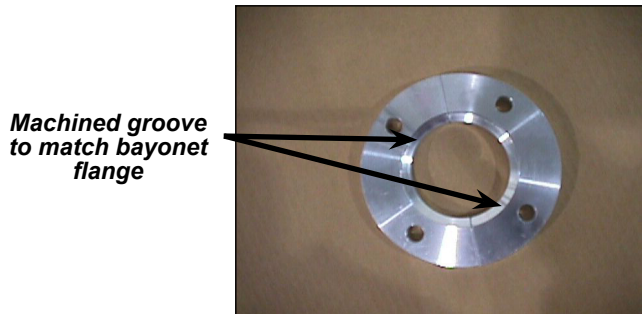

Figure 6
4. Back-up flanges have machined surface that matches bayonet flange. See Figure 6.